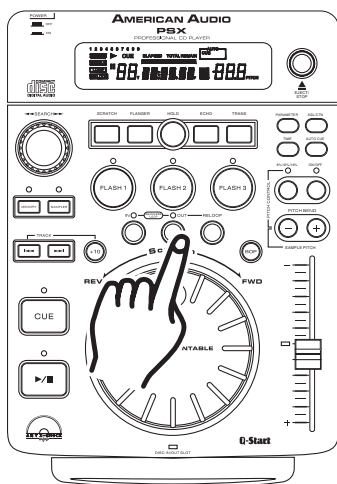

Figure 26
5) At this point your sample has been stored into memory. The original loop you used to create the sample will remain playing until the **OUT BUTTON (18)** is pressed (Figure 26).
6) Your sample can now be recalled at any time even when the unit is in **PAUSE MODE**. To recall the sample be sure the sample function is on, by pressing the **SAMPLE BUTTON (8)** until the red sample button LED turns on. To play your sample in a continuous loop leave the sample function on. To play your sample just once, turn the sample function off immediately after initiating your sample. With the sample function on the sample will continue to play until the sample function is turned off.